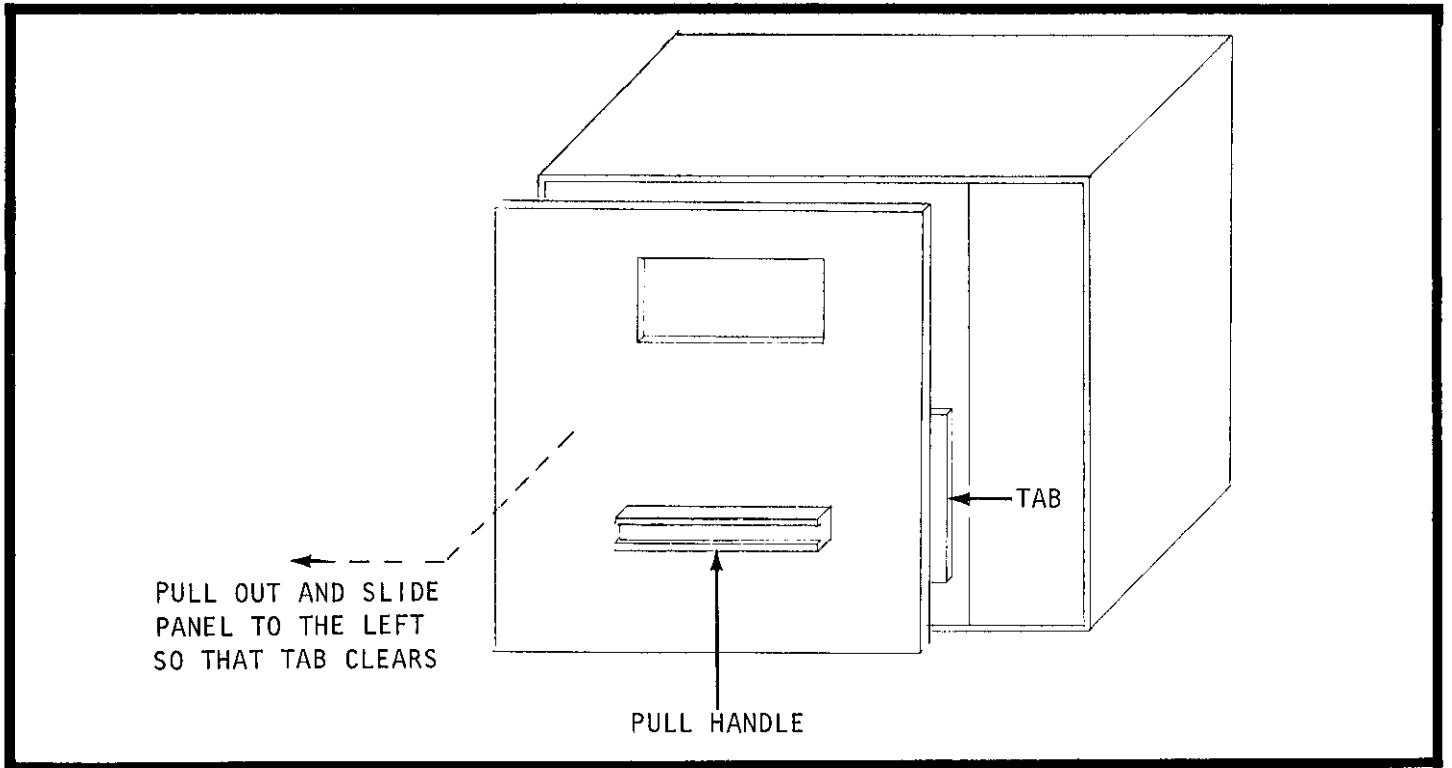

FIGURE 3. How to Open the Front Panel to Access the Mechanism.
1. Pull out front panel by grasping handle on front panel. Panel swings open as shown in Figure 3.
3. Pull out front panel by grasping handle on front panel. Panel swings open as shown in Figure 3.